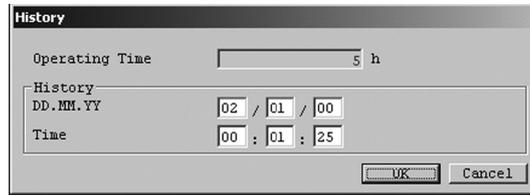

Fig.153
- ① Click the "Maintenance (M)" menu, and then select and click "History" from the "Maintenance xmtr" drop-down list.
- ② The following window will be displayed (Fig. 153).